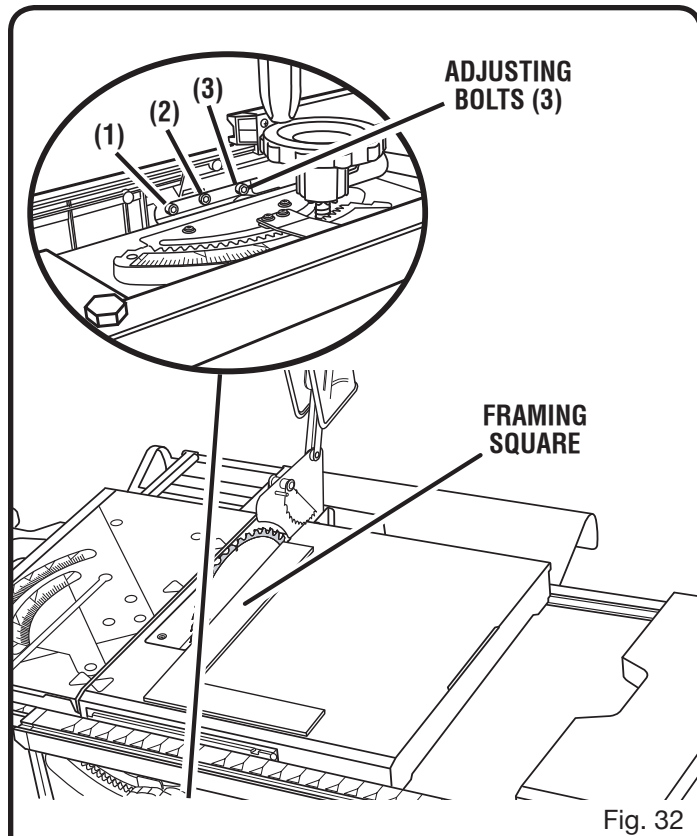

Fig. 32
See Figures 32 - 34.
- Mark beside one of the blade teeth at the front of the blade. Place a framing square even with the front of the saw table and the side of the saw blade as shown in figure 32.